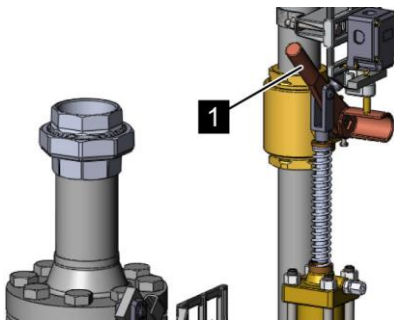

Fig. 163: Closing the selector valve
10. ➤ Fit the hand lever (Fig. 163/1) onto the operating element of the selector valve.
12. ➤ Take off the hand lever of the operating element (Fig. 163/1) and store it safely in the vicinity of the system.